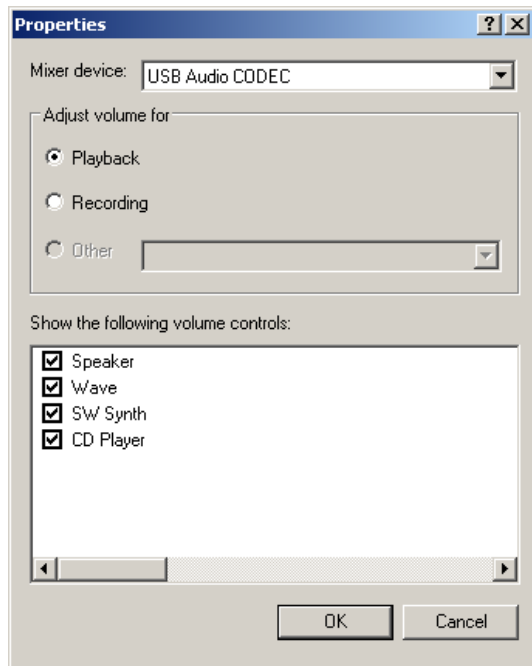

Figure 2 –Properties Window
- The Properties window should now look like the one shown below in Figure 2. Verify that it does and then click OK.